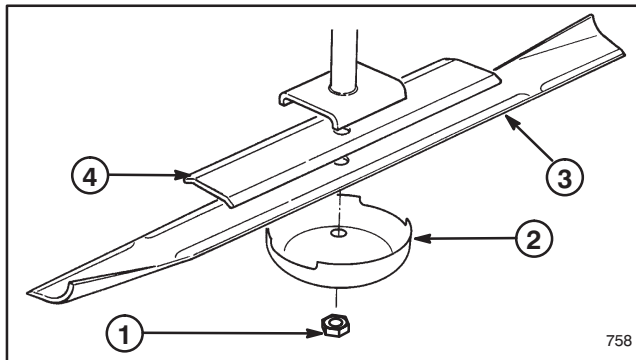

Figure 8
In certain tough conditions, the installation of the Recycler® Kit on the ProLine 32" wide area mower model 30133 may result in the blade contacting the kickers. A thick stiffener/spacer (Part No. 82-4770) is furnished in kit to lower the blade assembly (Fig. 8).
1. Install new blade stiffener/spacer before reinstalling the blade, anti-scalp cup and locknut (Fig. 8). Tighten locknut to 85–110 ft–lbs.